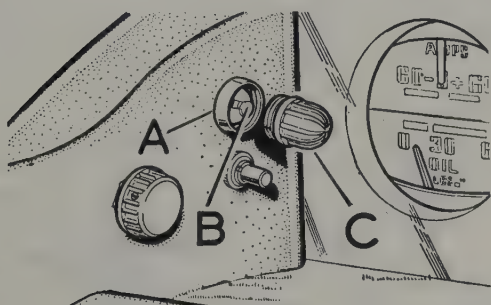

Fig. 10.45. Method of bulb renewal ('Icelert' warning lamp)
- 2 On earlier models the clock is retained as shown in Fig. 10.45 by two retaining nuts, flat and spring washers. Unscrew the nuts and extract the clock, disconnecting the bulb and lead from the holder.